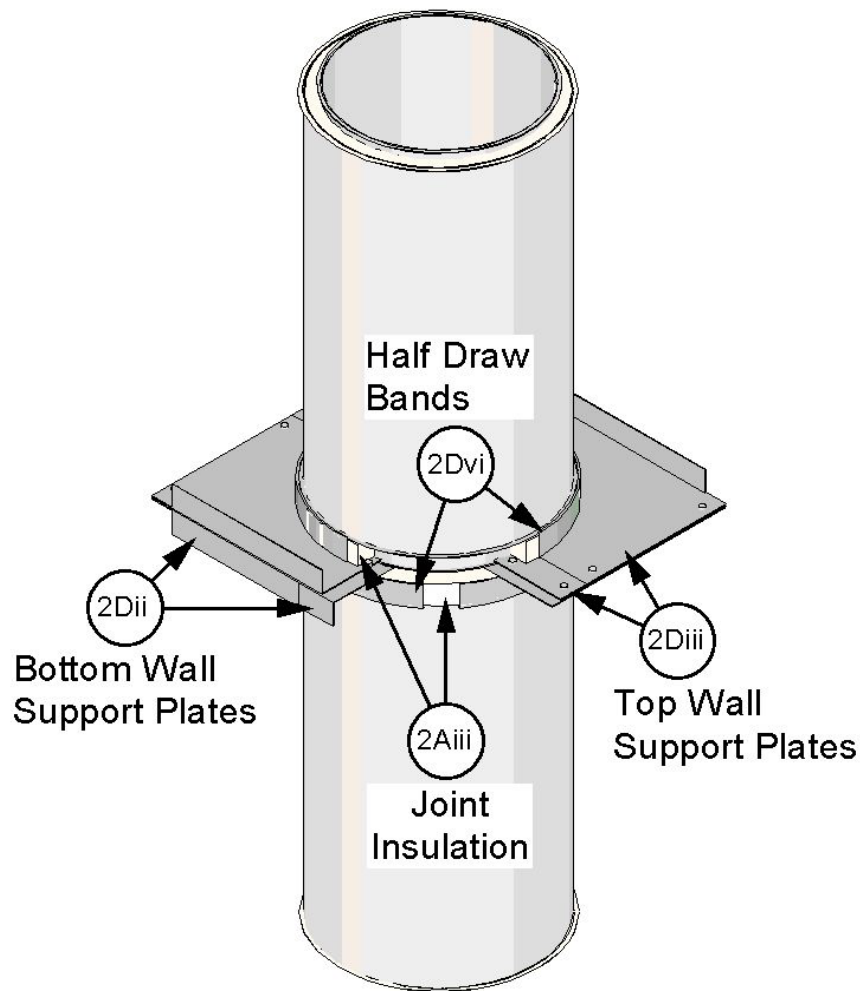
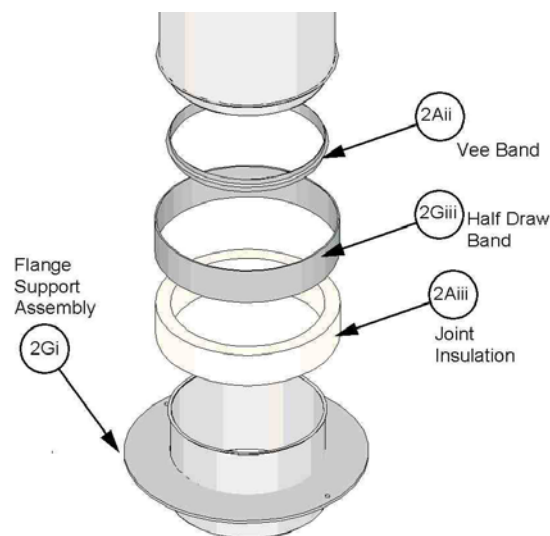

Figure 6. Wall Support Assembly (WSA) Joint
Figure 9. WFA Joint
Joint: Maintain min. code required clearance to combustibles or limited combustibles at WSA Joint locations. Reference Figure 6.
- ii. **Bottom Wall Support Plates:** Place the min. 8 GA steel, bottom Wall Support Plates (two (2) half-plates required) around the inner liner of the lower Grease Duct (Item 1) section, with the bent flanges of the bottom Wall Support Plates facing down and as shown in Figure 6.
- iii. **Top Wall Support Plates:** Place the min. 8 GA steel, top Wall Support Plates (two (2) half-plates required) around the inner liner of the upper Grease Duct (Item 1) section with the bent flanges of the top Wall Support Plates facing up and as shown in Figure 6.
- v. Use the supplied Joint Insulation (Item 2Aiii), and cut the width 1/4 in. greater than the width to be filled. Wrap the Joint Insulation around the upper and lower Grease Duct (Item 1) inner liner at the bottom and top Wall Support Plates (Items 2Dii and 2Diii). Wrap it three (3) times for nominal 1 in. thick Joint Insulation and two (2) times for nominal 1-1/2 in. thick Joint Insulation; add a min. 2 in. overlap on the final turn.
- vi. **Half Draw Bands:** Install two (2) Half Draw Bands to cover the insulated openings between the top and bottom Wall Support Plates (Items 2Dii and 2Diii) and the outer shells of the Grease Duct (Item 1) sections. Fasten the Half Draw Bands using the supplied 1/4-20 hardware in accordance with the manufacturer's installation instructions.
Joint: Maintain min. code required clearance to combustibles or limited combustibles at PLS Joint locations. Reference Figures 6 and 7. Follow same requirements as for the Wall Support Assembly (WSA) joint (Item 2D), except use the supplied, min. 1/4 in. thick steel support plates (S/P) in lieu of the Bottom Wall Support Plates (Item 2Dii) and the min. 11 GA steel clamp flanges (C/F) in lieu of the Top Wall Support Plates (Item 2Diii).
Joint: Maintain min. code required clearance to combustibles or limited combustibles at GAR Joint locations. Reference Figures 6 and 8. Follow same requirements as for the Wall Support Assembly (WSA) joint (Item 2D), except use the supplied min. 11 GA steel guy attachment rings (GAR) in lieu of the Bottom Wall Support Plates (Item 2Dii) and the Top Wall Support Plates (Item 2Diii).
Joint: Maintain min. code required clearance to combustibles or limited combustibles at WFA Joint locations. Reference Figure 9.
B. Vertical Supports: Reference Figures 6, 7, 9, and 10. Where the Grease Duct (Item 1) is installed vertically, use the Wall Support Assembly (WSA), Plate Support Assembly (PLS), Wall Flange Assembly (WFA), or Ventilated Roof Support (VRS) depicted in Figure 9 with supplied components.
i. Supporting Construction: Use supporting construction determined by the responsible structural project engineer as appropriate to support four (4) times the load of the Grease Duct (Item 1) and meet the requirements of the IMC or other applicable regulatory requirement.